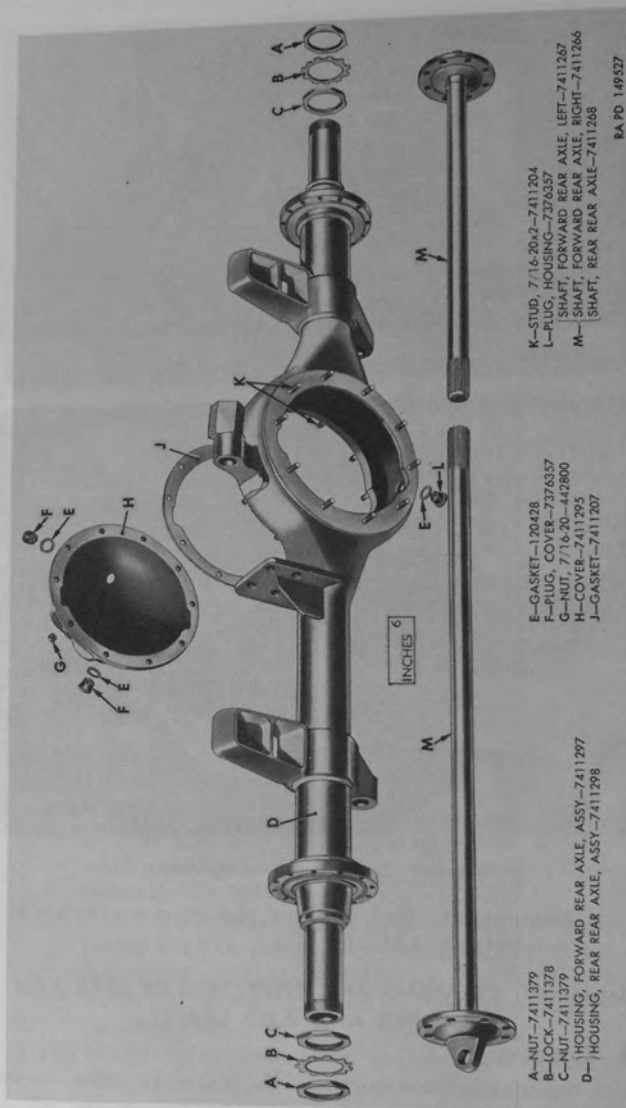

Figure 148. Rear axle housing and associated parts.
Note. Key letters noted in parentheses are in figure 148 unless otherwise indicated.
a. Installation of gasket.—Apply light coating of plastic type gasket cement to both sides of gasket ((J), fig. 148); then position gasket over studs and against housing.
When installing cover ((H), fig. 148) on rear axle, make certain that oil filler hole marked "REAR OIL LEVEL" is upright (not upside down). Position cover over studs and install ten $\frac{7}{16}$ -20 nuts ((G), fig. 148) on studs and tighten to 45 to 55 pounds.